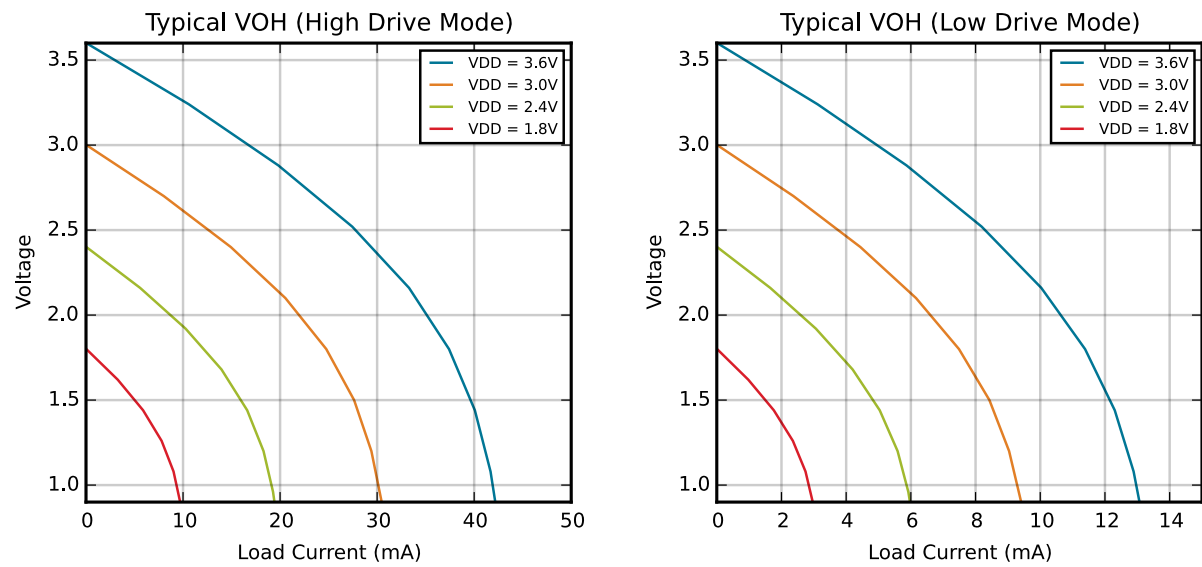
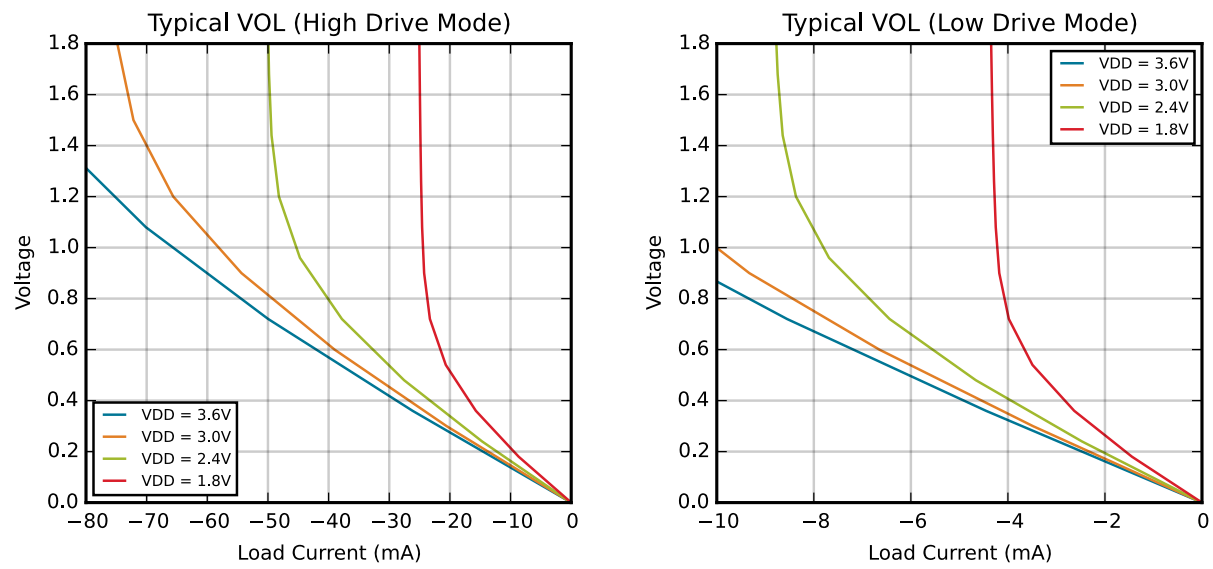

Figure 4.2. Typical  $V_{OH}$  Curves
Figure 4.3. Typical VOL Curves
1. See Figure 4.2 Typical VOH Curves on page 24 and Figure 4.3 Typical VOL Curves on page 25 for more information.